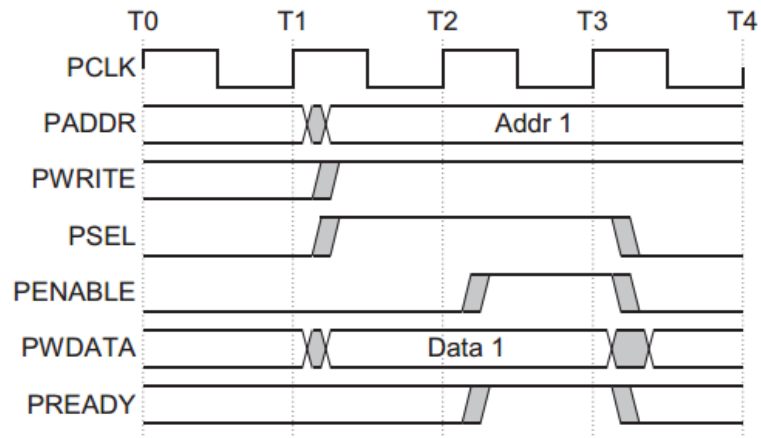

Figure 2-2 Write transfer with no wait states
Figure 2-2 shows a basic write transfer with no wait states.
- Write transfer with no wait state timing chart – Figure 2-2